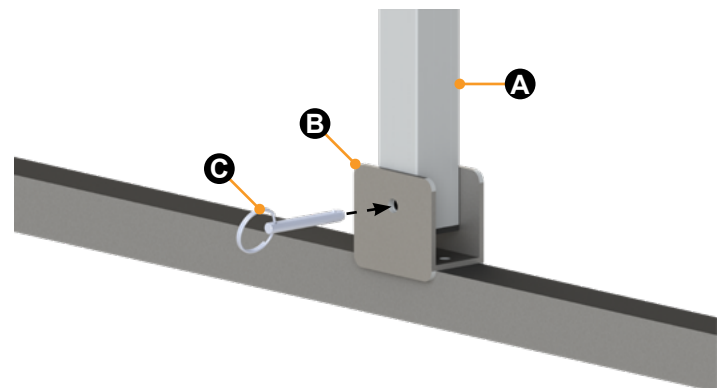

Fig.26
- F. Align each rear support tube's mounting pivot hole over its H-bracket's pivot hole (Fig.26).